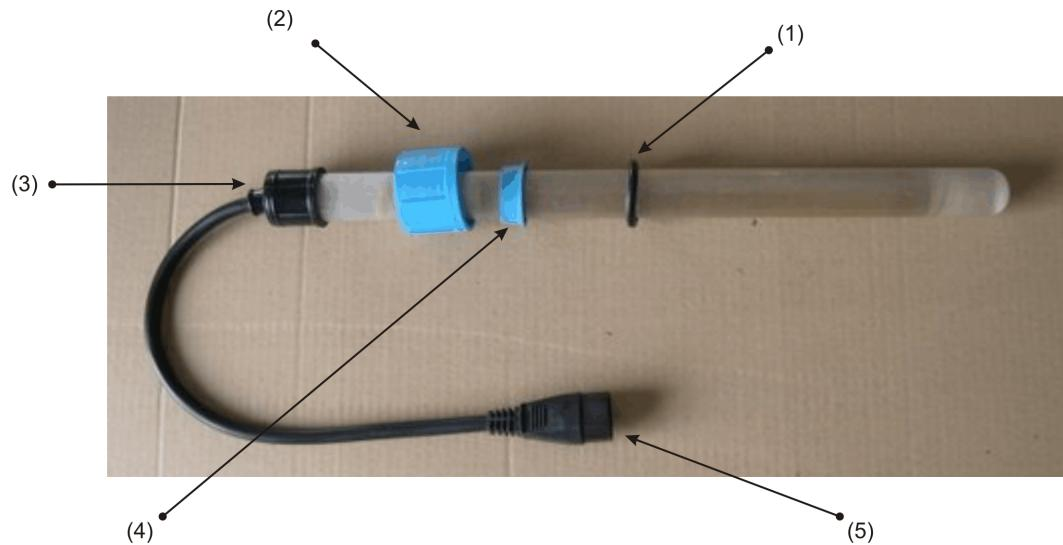
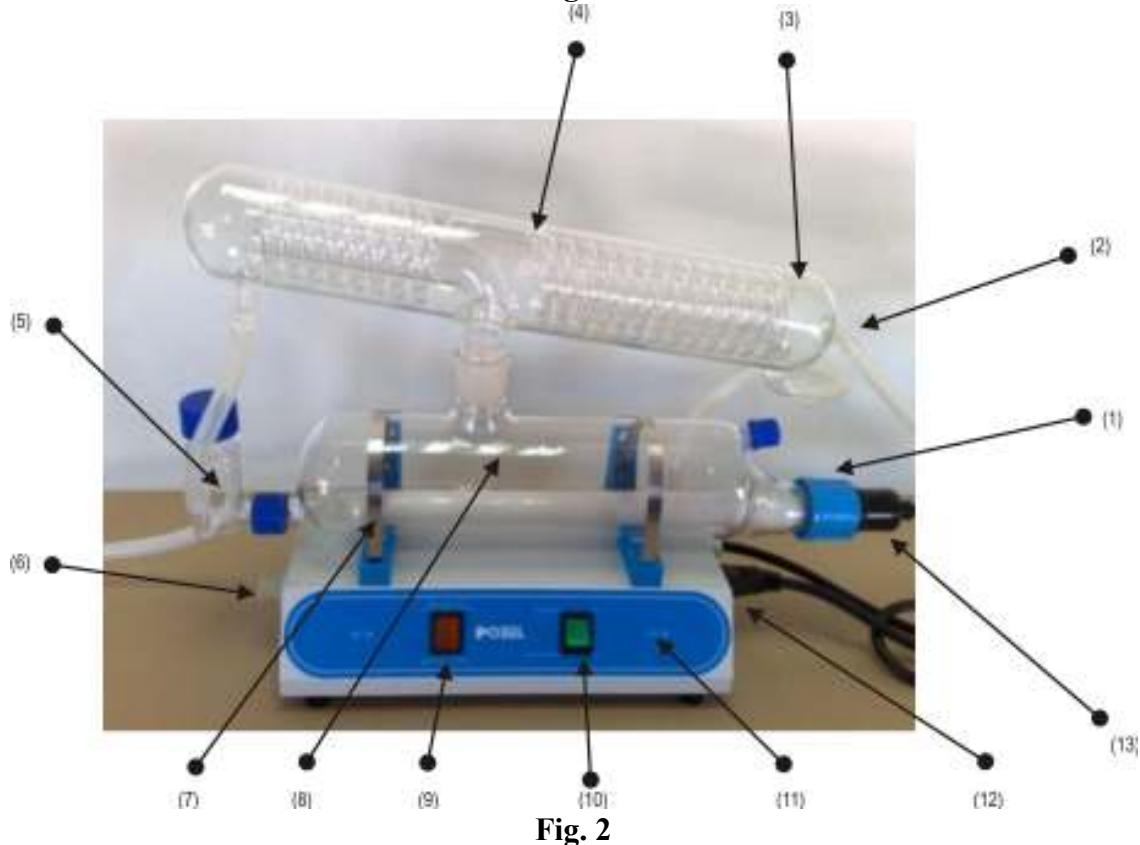

Fig. 1
Fig. 2
2. Coloque la resistencia sobre la boca roscada (véase fig. 2): sujetela resistencia por el casquillo (fig. 1, pieza 3) y gire la tuerca (fig. 1, pieza 2).
3. Conecte la goma de entrada del agua sobre la toma de entrada del destilador (fig. 2, pieza 6).
1. 1. Be sure that heater elements (washer of silicone rubber, guide fitting and PBTP nut) are in the order and position that the fig. 1 shows.
2. Insert the heater through the screw mouth (see fig. 2); hold the heater of the fitting (fig. 1,
*piece 2) – and do not of the cap (fig. 1, piece 1) – and turn the PTPB nut (fig. 1, piece 3)*
1. Switch on the green switch (fig. 2, piece 10). This will light showing that the still is connecting to the power point. The warning light will also light (fig. 2, piece 9) showing that the water supply is not enough.
2. Turn the tap on slowly until the pilot (fig. 2, piece 9) turn off.
- Before few minutes, the heater will be getting red and the boiling will start. The stilled water goes out through the outlet (fig. 2, piece 2).
- If water steam went out through steam hole (fig. 2, piece 3), you would have to increase water supply.